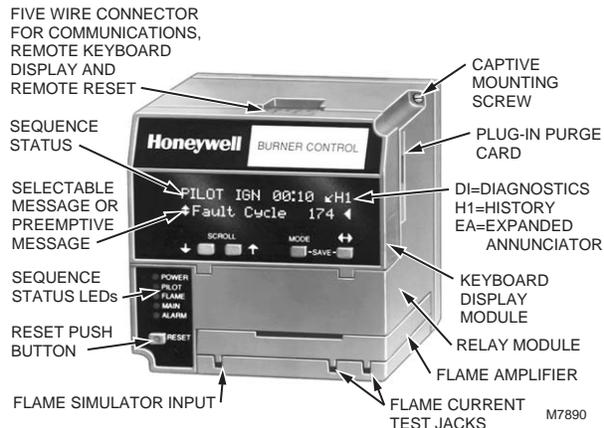

Fig. 1. Keyboard Display Module and sequence status LEDs.
- **Five sequence information LEDs, see Fig. 1.**